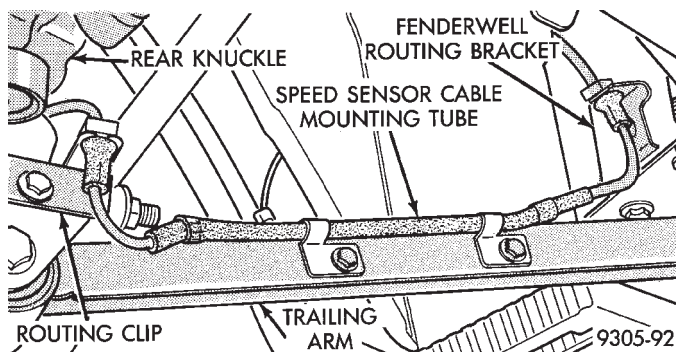

Fig. 13 Speed Sensor Routing Tube And Bracket
(5) Mount rear speed sensor cable routing tube to the rear trailing arm and speed sensor cable routing bracket to trailing arm bracket at rear spindle (Fig. 13).
(6) If vehicle is equipped with rear disc brakes, install rear braking disc on hub. Carefully install rear brake caliper over braking disc and install on adapter. Tighten the caliper assembly to adapter